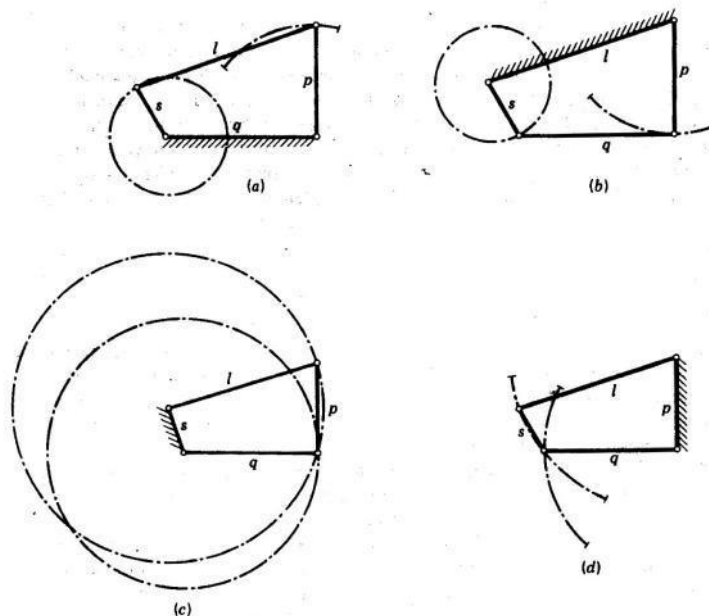

Fig.1.23 Inversions of four bar chain.
**Crank-rocker mechanism:** In this mechanism, either link 1 or link 3 is fixed. Link 2 (crank) rotates completely and link 4 (rocker) oscillates. It is similar to (a) or (b) of fig.1.23.